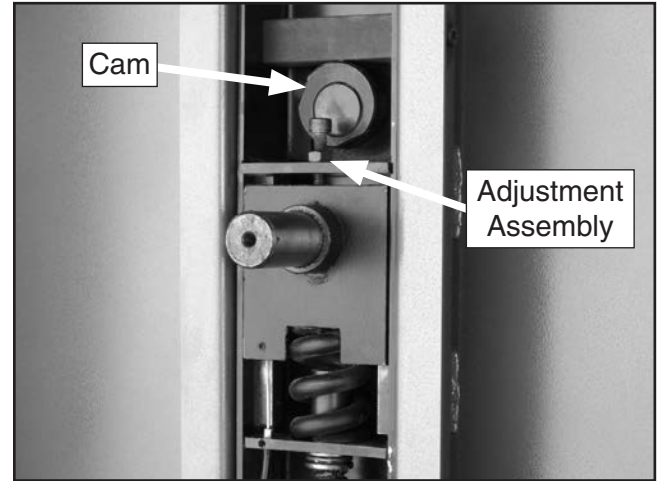

Figure 92. Example of tension adjustment assembly locations (top wheel removed for clarity).
- Apply a thin coat of lubricant to the tension adjustment assembly and tension lever cam (see **Figure 92**).